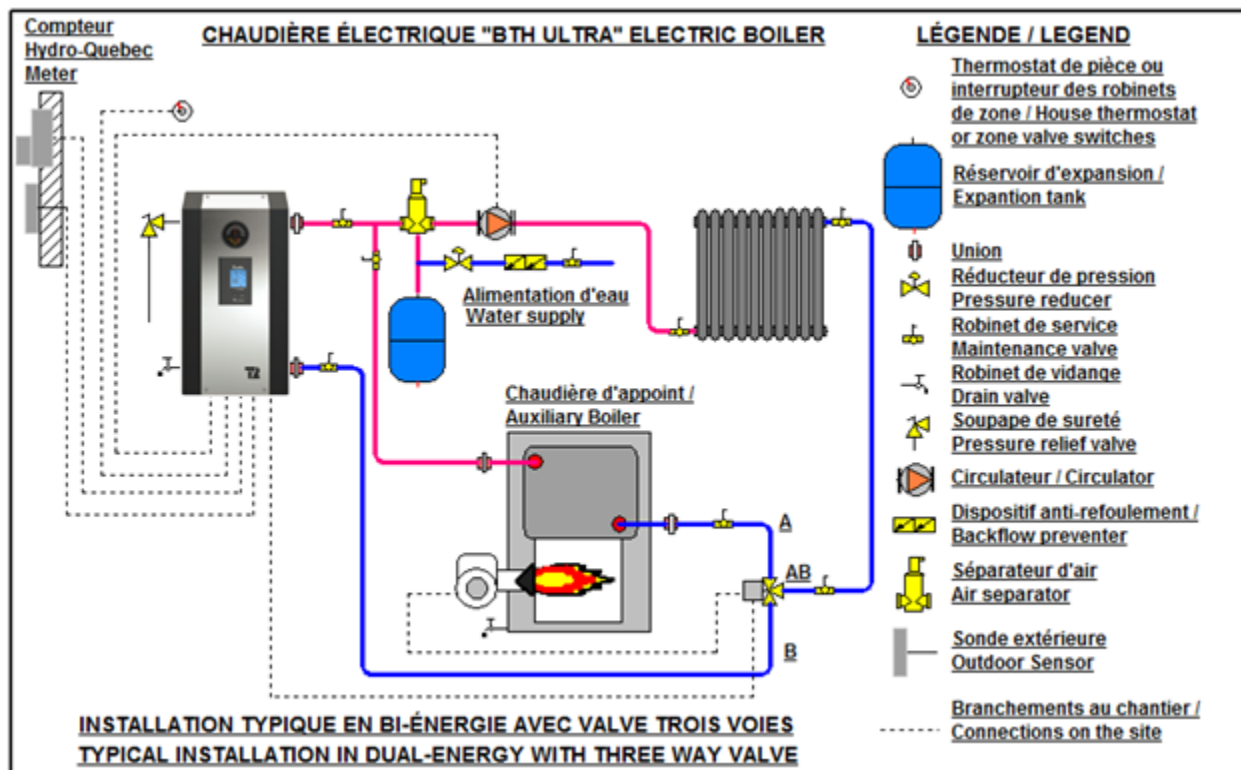

Figure 8 : Typical installation with three way valve
N.B.: Make sure to select the appropriate port A, B and AB when making the connection of the piping (see fig.8)